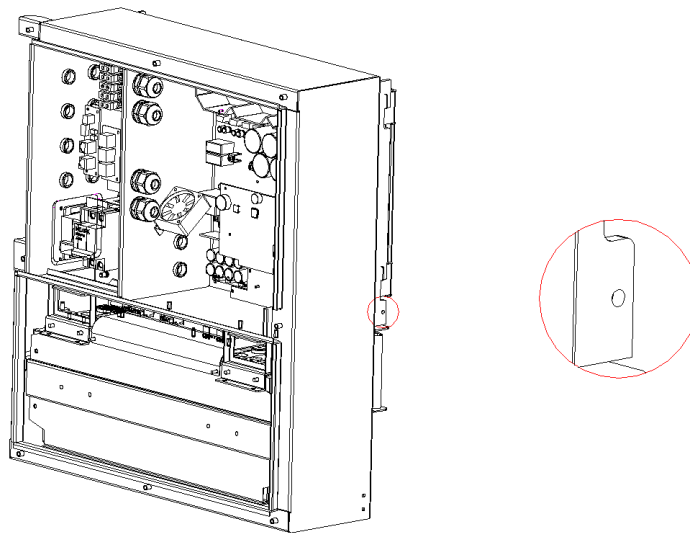

Figure 2.10 Earthing Bonding Position
Step 5: the earthing bonding position for Storion-SMILE-B3 is as shown in Figure 2.10, please use the M4*12 screw.